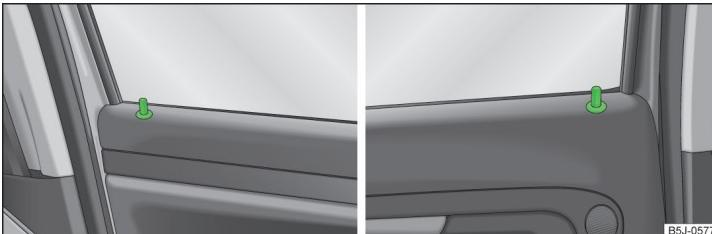

Fig. 29 Securing knob in the front door/rear door
The locking knob » Fig. 29 will move upwards or downwards when you lock or unlock the door.
- » Push the locking knob » Fig. 29 down.